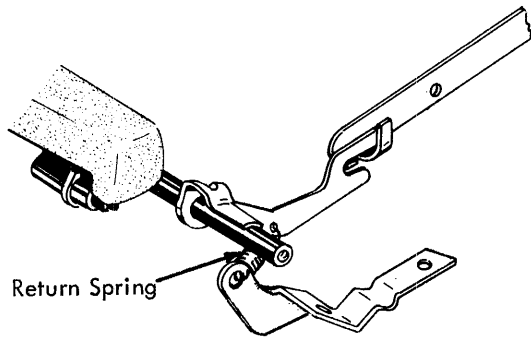

FIGURE 189. Spacebar Return Spring (Late Style)
- b. Late Style - Position the spring in one of the three holes in the carrier return/backspace repeat bail so that the spacebar interposer can be tripped by a 2-3/4 to 3-1/4 ounce load (Fig. 189).